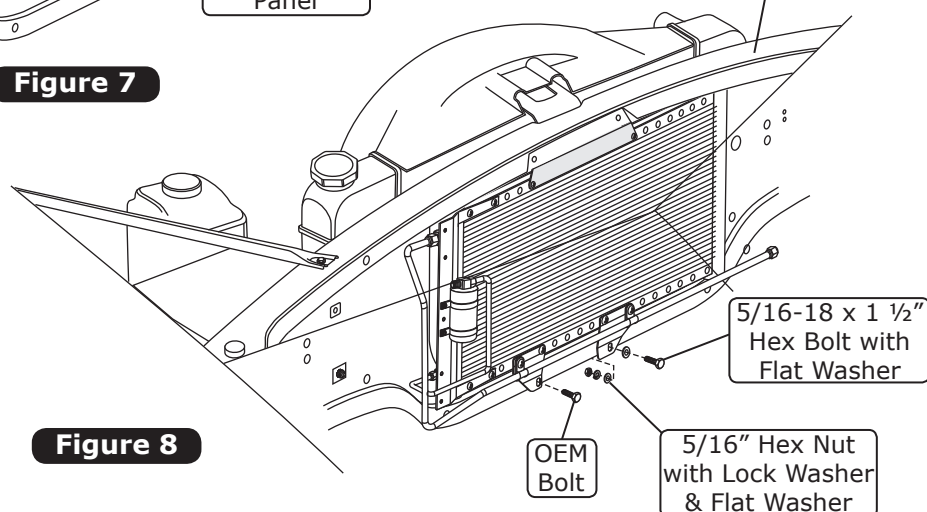

Figure 8
2. Secure the bottom driver side of the condenser to the core support using a 5/16-18 x 1 1/2" hex bolt, a flat washer, a lock washer, and a 5/16" hex nut as shown in Figure 8, below.
3. Secure the bottom passenger side of the condenser to the core support using an OEM bolt (See Figure 8, below).